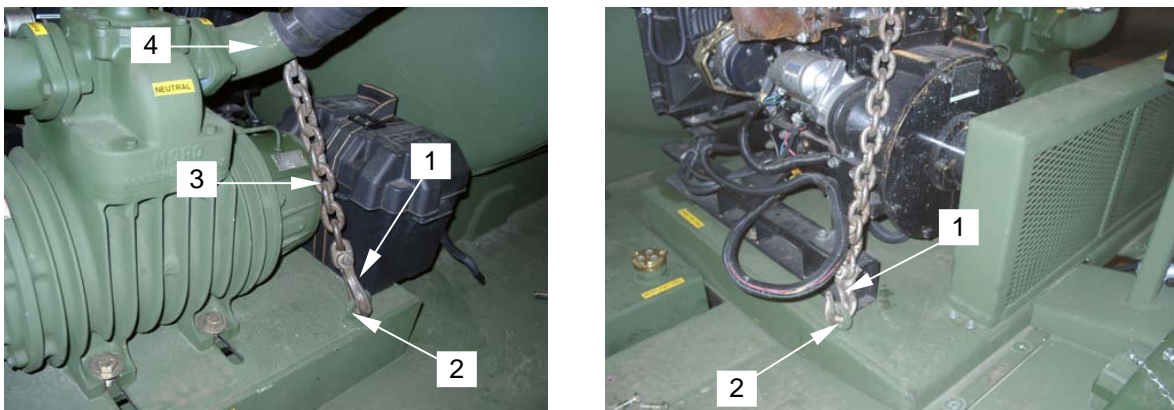

Figure 10. Attaching Lifting Hooks
27. Attach lift hooks (**figure 10 item 1**) to skid lifting eyes (**figure 10 item 2**) as shown. Ensure rear lifting chain (**figure 10 item 3**) is positioned behind vacuum pump port (**figure 10 item 4**).